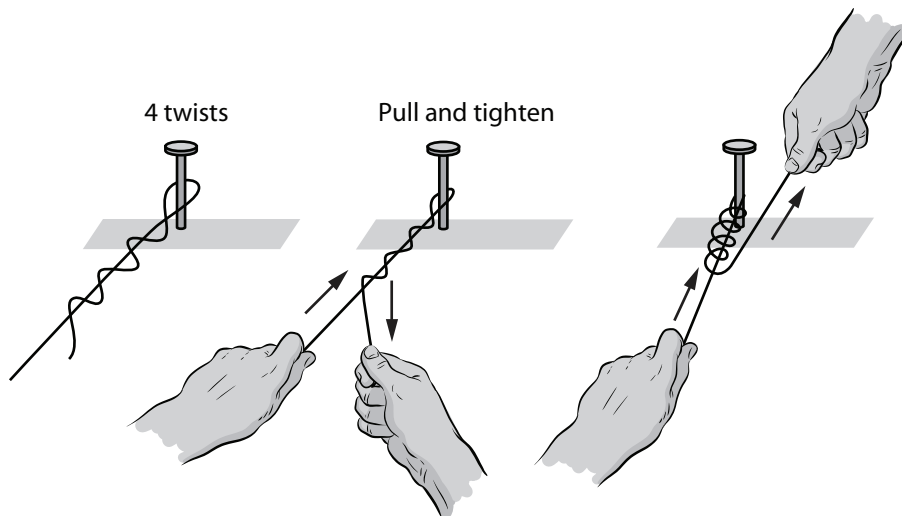

Figure 10—Tying string lines
6. Pull the free part toward the nail and push the twists up against the nail (Figure 10).